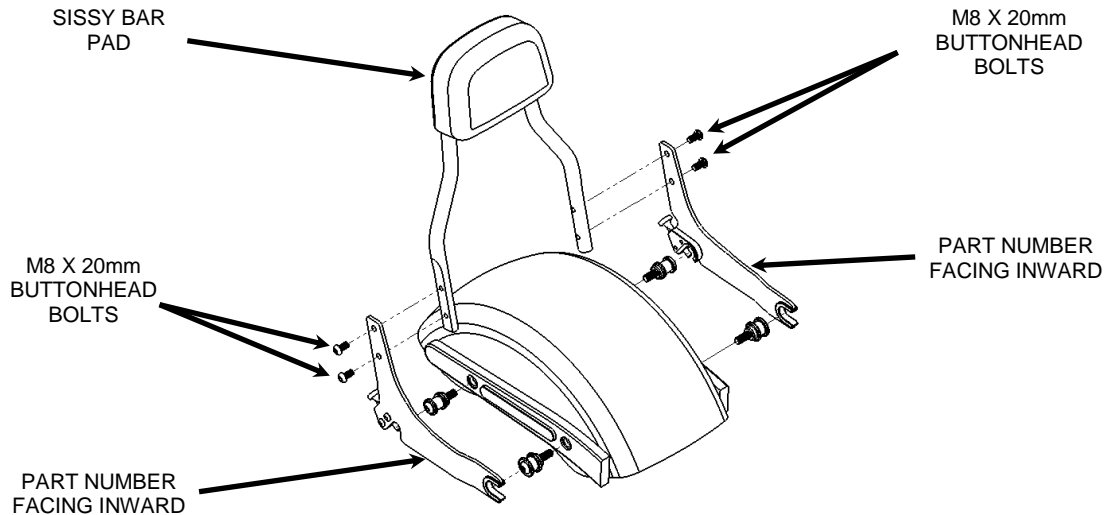

FIGURE 3
- Install the supplied side plates on to the sissy bar with the four M8 X 20mm button head bolts. Make sure the u-shaped grommets are facing the same direction as the sissy bar pad and the part numbers are facing inward. See **FIGURE 3**. Snug the bolts but **DO NOT TIGHTEN** at this time.